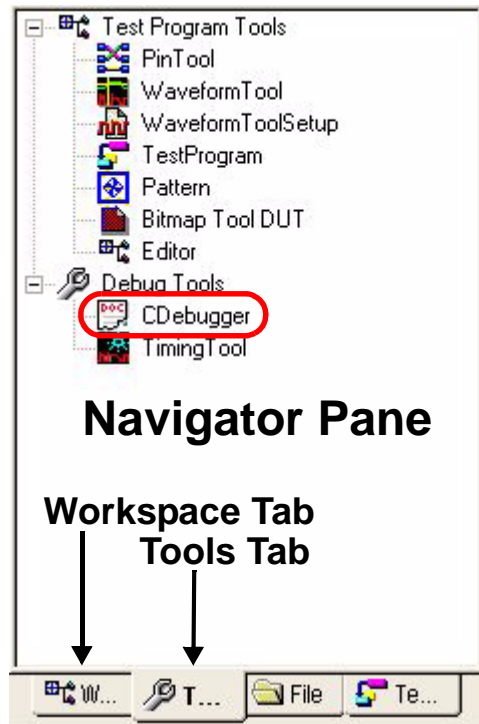
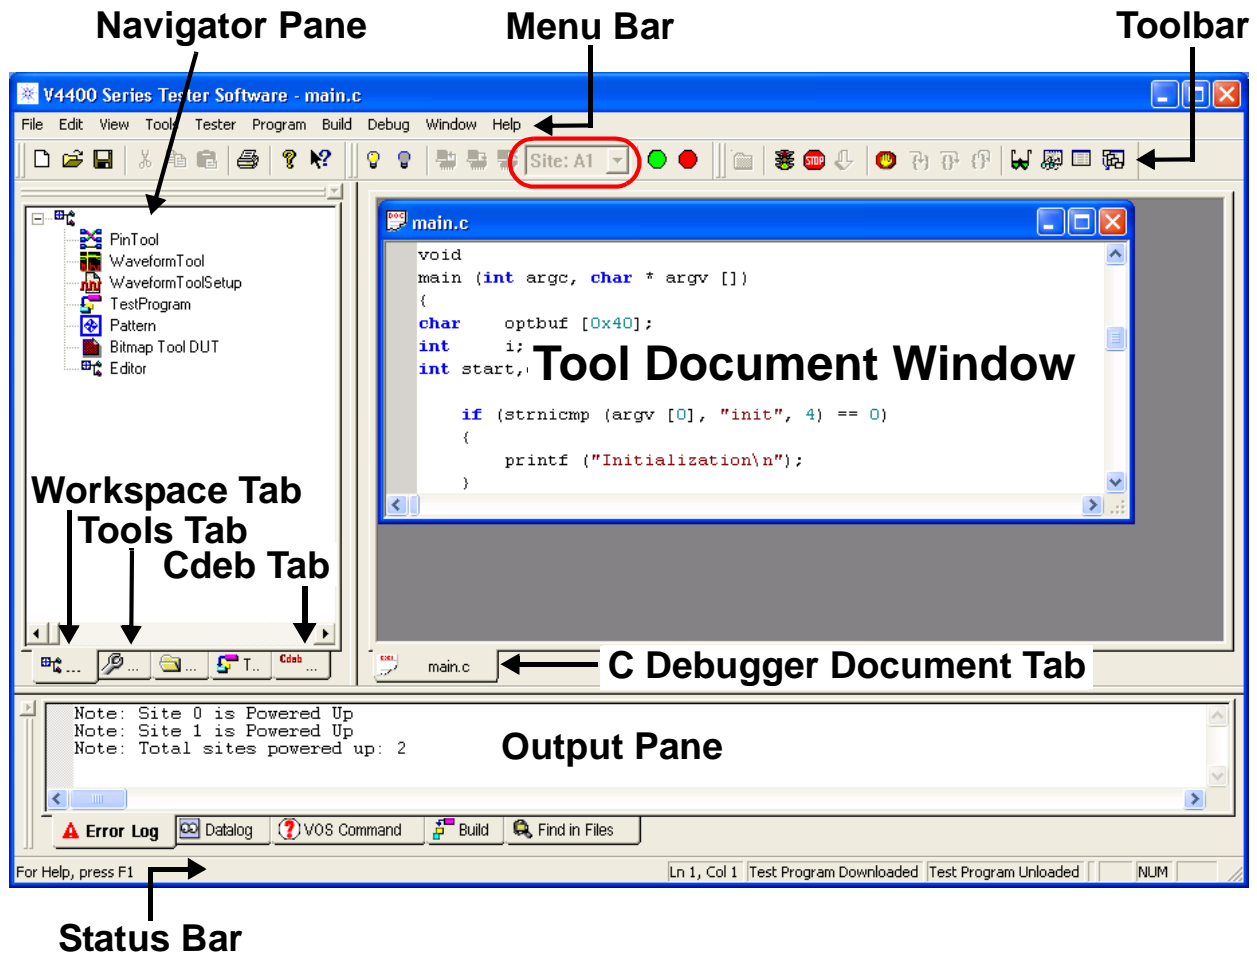

Figure 4-40. Navigator Pane Tools Tab
Figure 4-41. IDE Displaying C Debugger
- 4 Selecting the Tools Tab  icon in the Navigator Pane displays its tab (Figure 4-40).
- 5 Double-clicking CDebugger under Debug Tools (Figure 4-40) displays the C Debugger as the active tool in the Tool Document pane, and connects the IDE to the previously selected test site and disables the Site Connect Status drop-down list box (Figure 4-41). This also adds the C Debugger **Cdeb** (Cdeb) tab to the Navigation pane, its menu bar and toolbar, and redisplay the Workspace tab **W...** in the Navigator pane.